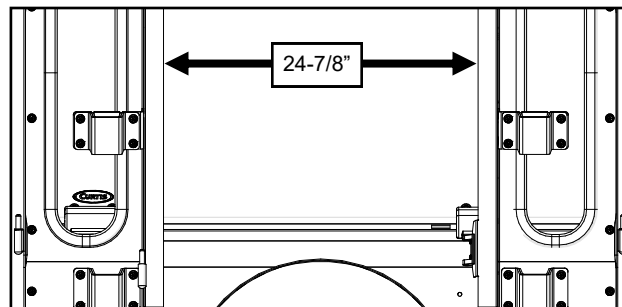

Fig. 11.1 (Measure Rear Legs Left to Right)
- 11.1 Measure the back of the rear legs, inside to inside, and adjust the width to 24-7/8". Measure corner to corner for squareness, and **tighten the (8) sets** of screws and nuts that attach the rear legs to the ROPS, to lock in this width. See figure 11.1